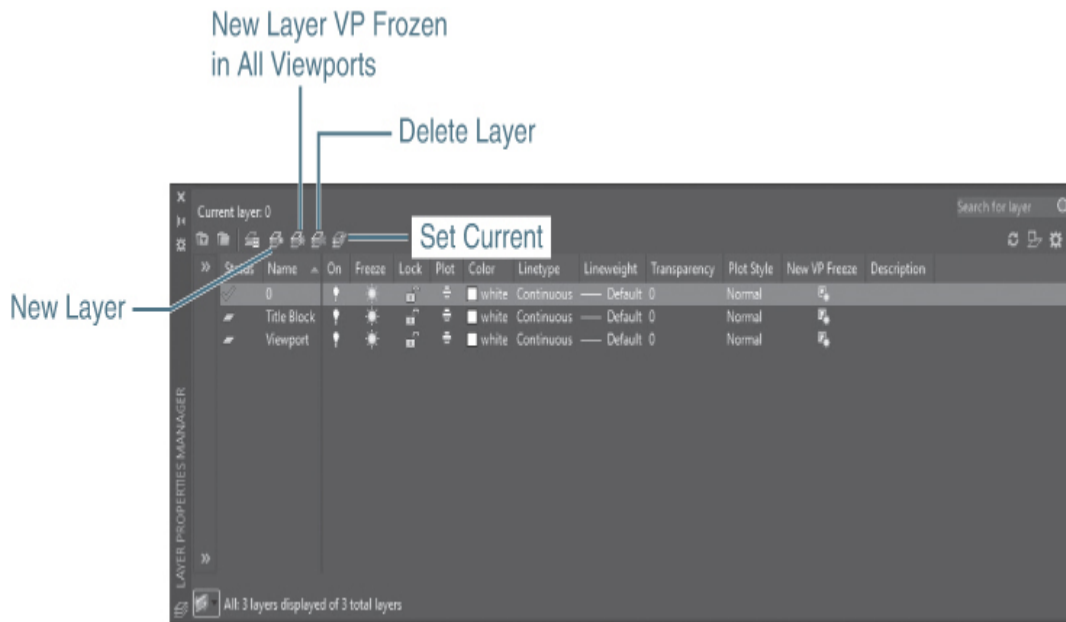

Figure 2-21
- 1 Choose the **Layer Properties** tool from the **Layers** panel. The **Layer Properties Manager** palette appears (see Figure 2-21). There are three layers currently defined. Layer **0** is the default layer included in every drawing. The **Title Block** and **Viewport** layers came from the drawing template.
- 2** Choose the **New Layer** button at the top of the palette (see Figure 2-21). Type **Dim<Enter>** for the name.